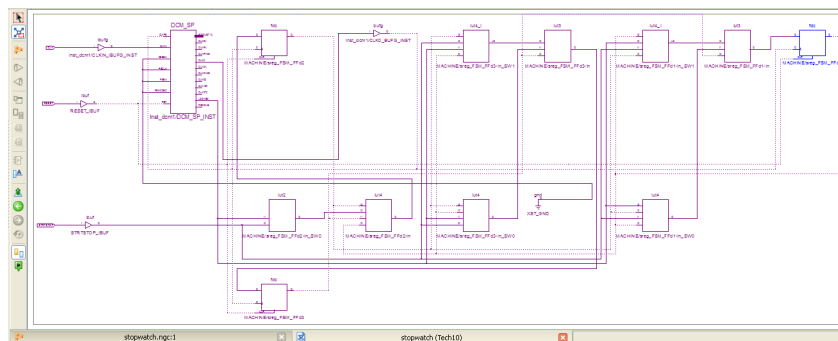

Figure 7-2: Adding Input
3. Select the visualized flip-flop, and select **Add Input Cone** from the right-click menu. The input appears as shown in Figure 7-2.